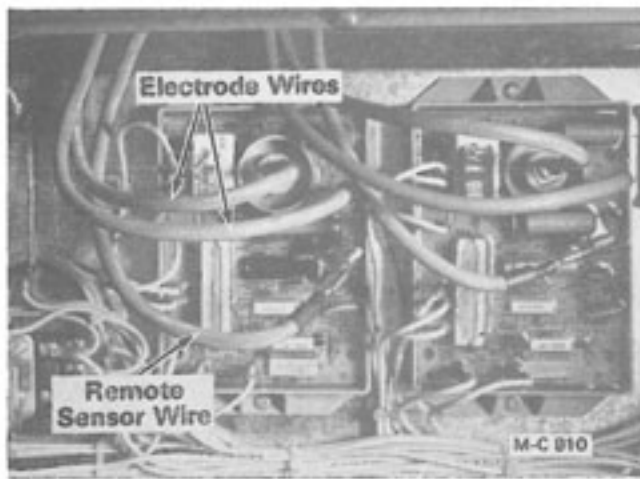

Figure 55 - Ignition Boards
5. Check to be sure that there is 115V power to the ignition board. Connect a voltmeter between terminal A (L1) and L2 on the ignition board, see Figure 55, 56 and 57.
8. If there is 115V between terminal A (L1) and L2 check for 115V at terminal B (V1) on the ignition board, see Figure 55, 56 and 57. Connect a voltmeter between terminal V2 and B (V1) on the ignition board.